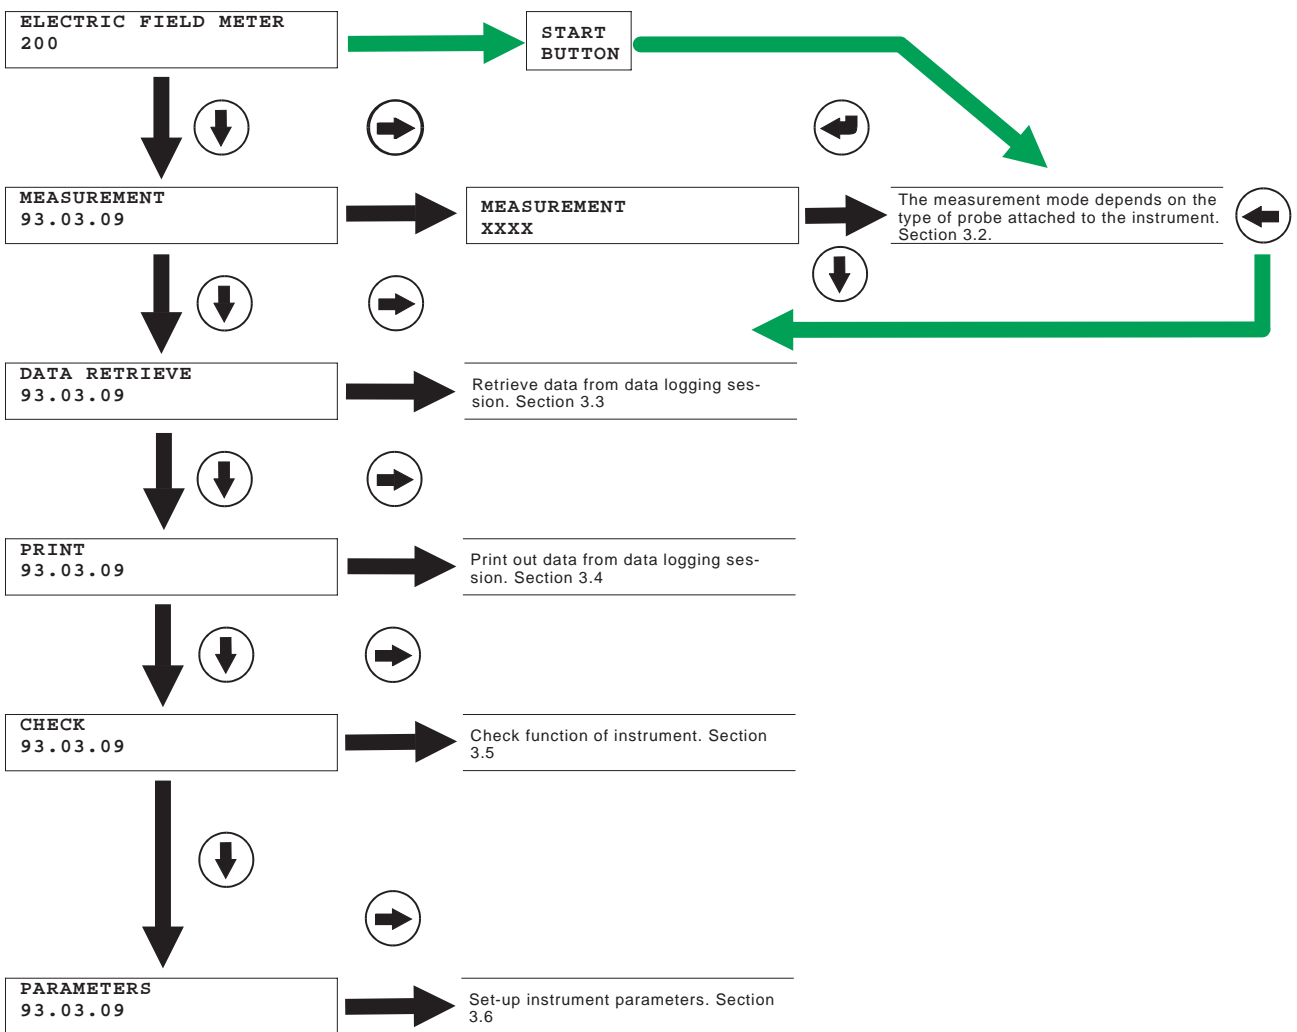

Fig. 3.3 EFM 200 Function Modes
- SCROLL (⬇️) Goto next function, sub-function result or value (see Fig. 3.3)
- QUIT (⬅️) Quit the selected function and return to the next level (see Fig. 3.3).
By using the four keys on the control panel, all functional modes of the instrument can be accessed. The available functions are shown in the flow diagram, Figure 3.3. The key presses required to select the function or enter values are also shown.
Depending on the probe type attached, there are two measurement menus available which are described below. Once the probe has been attached, select 'MEASUREMENT' to enter measurement mode, see Fig. 3.3.
Select DATA RETRIEVE as shown in Fig. 3.3, press the SELECT key to enter the mode.